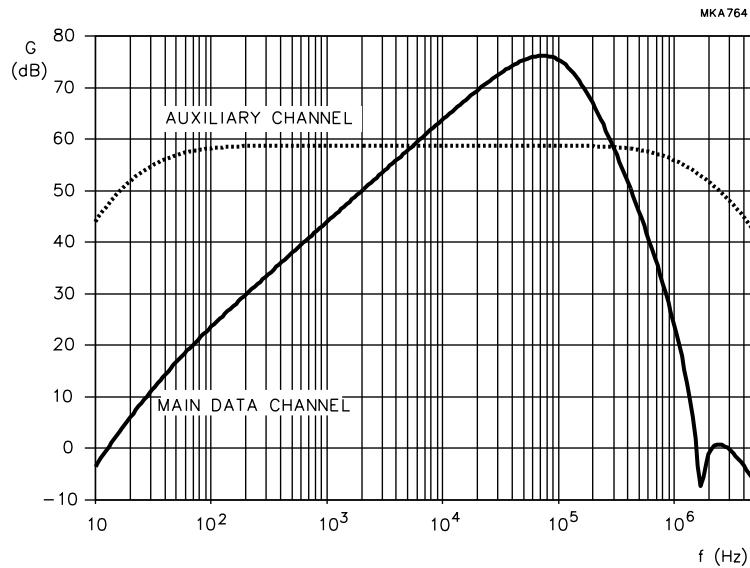

Fig.5 Typical gain of the auxiliary and main data channel (AGC off).
2. Gain relative to gain at  $f_i = 50 \text{ kHz}$  (see Fig.5).